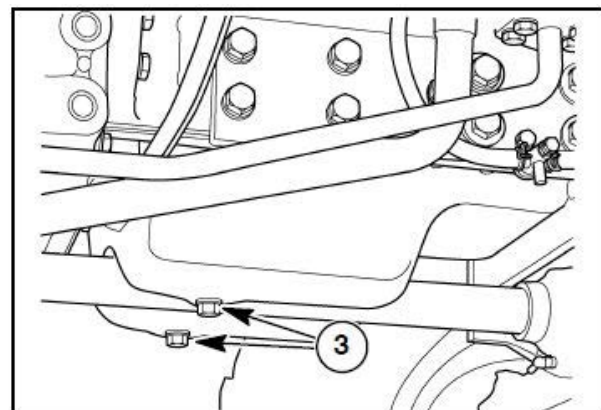

Figure 3-5
1. Place a suitable container beneath the drain opening to catch the used oil. With the tractor engine off but at normal operating temperature, remove the drain plugs (3) in Figure 3-5. Reinstall the plugs after all of the oil has been drained.